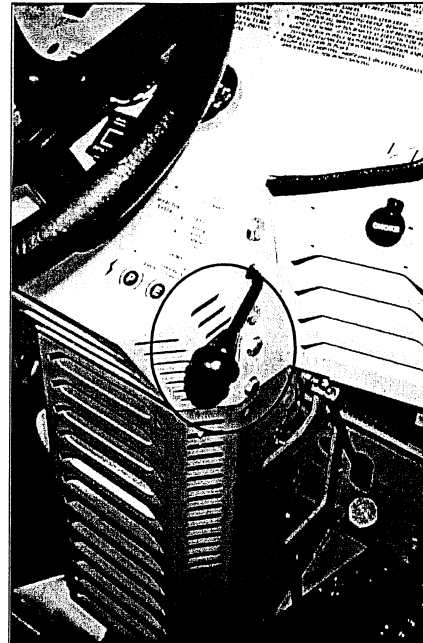

Figure 4
The right side of the dash has IMPORTANT operational and safety instructions. A manual choke pull is located in the right lower corner for gasoline engine models. Just below the dash on the right side is a three- (3) position **Control Selector** (Figure 4).